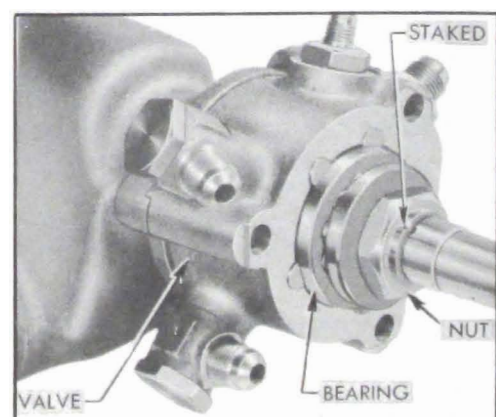

Figure 7-7—Thrust Bearing and Nut
4. Turn steering wheel to extreme right or left position. Apply Scale J 544-A to a spoke at rim of wheel and, while pulling scale at 90 degrees to spoke, check the pull required to turn the wheel steadily in the range *where lash normally exists* between ball nut and pitman shaft sector. See figure 7-7. The lash range exists for one eighth turn of steering wheel from either extreme position.
worm shaft keyway, using suitable chisel, then remove nut and thrust bearing. See figure 7-7.
13. The reading on the scale should be between  $\frac{1}{4}$  and  $\frac{1}{2}$  pound. Adjust the worm nut as required to obtain this reading, then stake outer edge of worm bearing nut down into keyway of worm shaft (fig. 7-7), making sure that nut does not turn from its adjusted position.